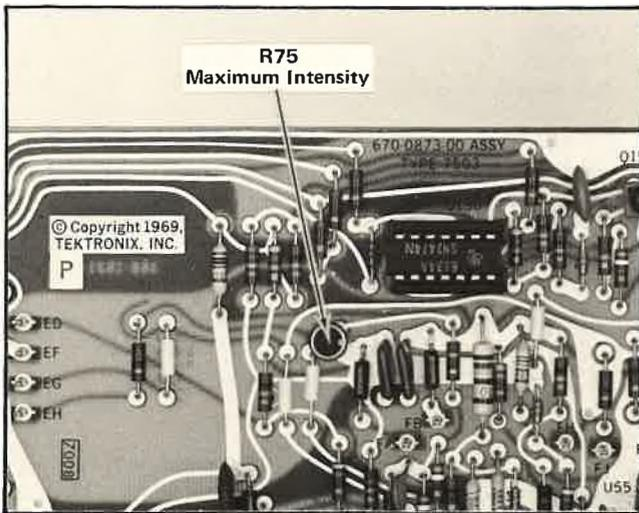

Fig. 5-6. Location of R75 Maximum Intensity adjustment on Logic circuit board.
- h. ADJUST—Maximum Intensity adjustment, R75 (see Fig. 5-6), on the Logic board for a DC voltmeter reading of +69 volts. Removal of the power unit from the 7503 is necessary to make this adjustment. See Section 4 for power unit removal procedure.